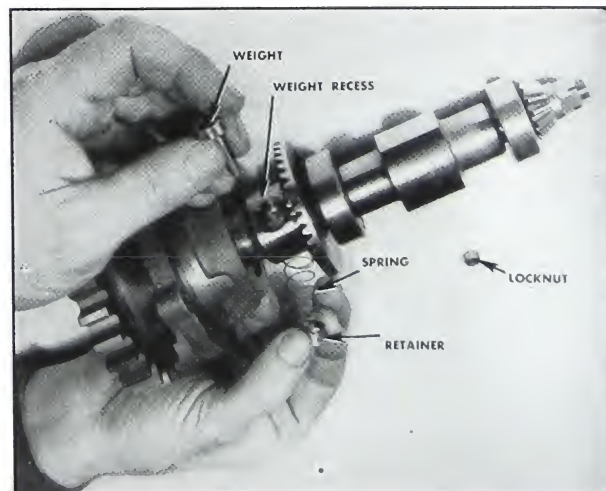

Fig. 5-269. Assembling weight with camshaft removed
Should the overspeed stop weight need to be assembled or disassembled it can be done easiest while the camshaft is out of the pump. See Fig. 5-269. However, it can be assembled, disassembled or adjusted while the camshaft is in the pump by using ST-345 and ST-346 service tools.
3. Overspeed stop weight is inserted through the side of the camshaft which has a relief in the weight recess. Fig. 5-269.
4. Spring, washer, spring retainer and locknut are assembled to the weight from the opposite side of the weight in that order. Fig. 5-269. See